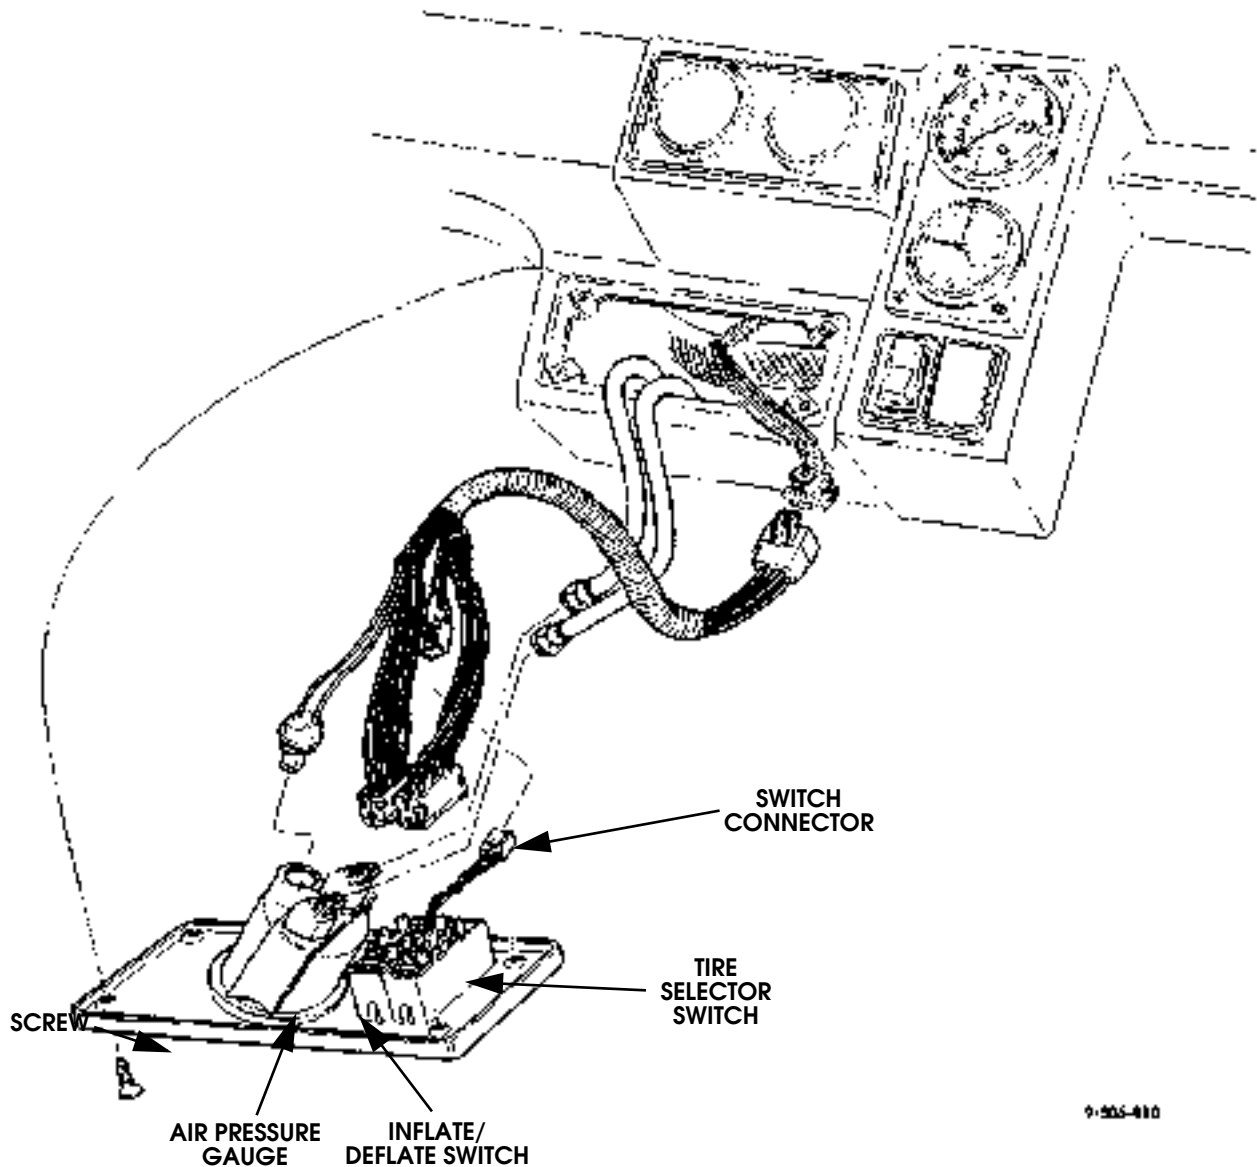

Figure 6-54: CTIS Instrument Cluster Appearance (Viewed from Behind)
1. Remove screws and CTIS instrument cluster panel from instrument panel (Figure 6-54).
2. Disconnect connector from inflate/deflate switch and tire selector switch (Figures 6-54 and 6-55).